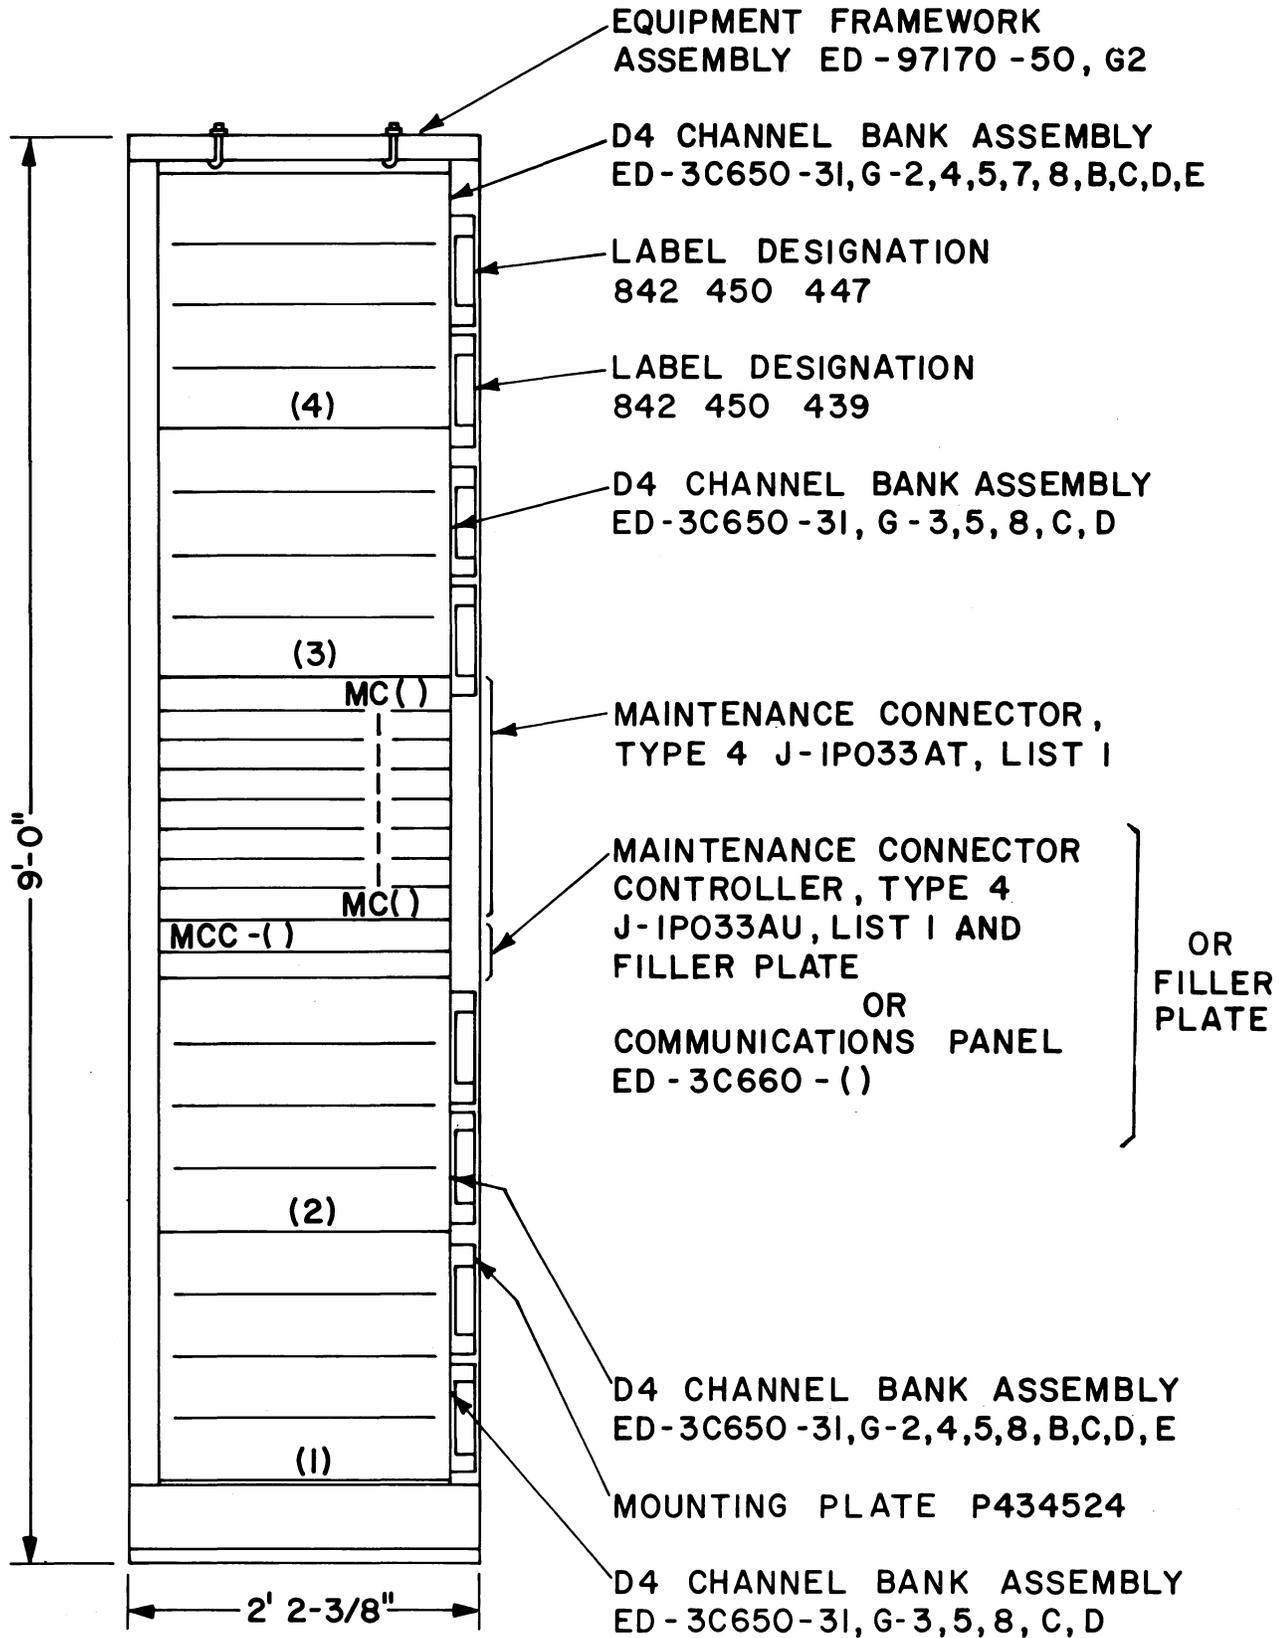

Fig 6—J98733E
**1.08** The J98733E frame shown in Fig 6 is a 9-foot cable-duct type framework having provisions for four D4 channel banks, an optional MCC, and eight MCs. It will accommodate front-mounted equipment for 192 channels.